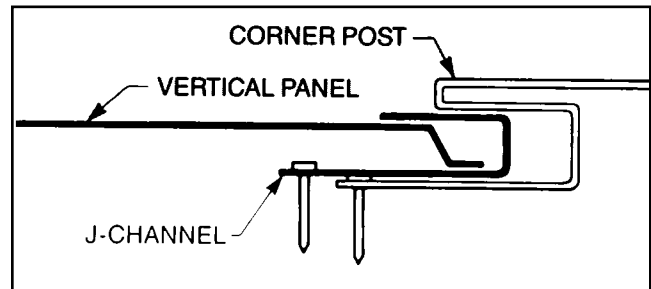
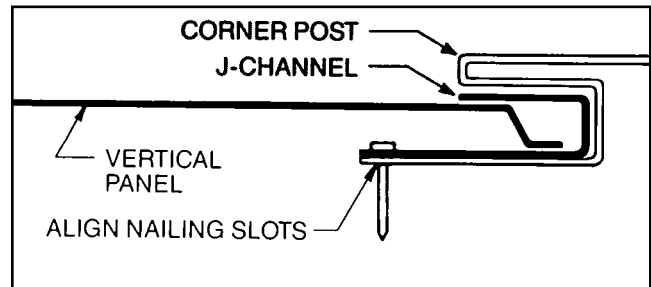
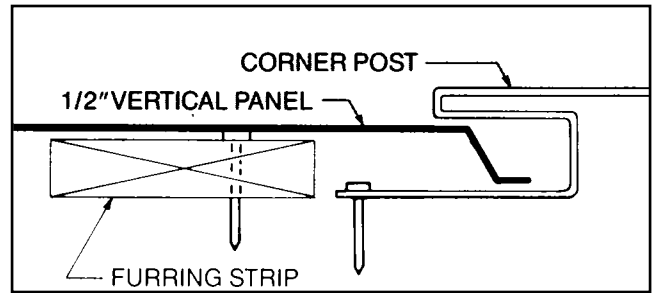

Fig 8.3
Fig 8.4
Fig 8.5
- A. If the final siding panel is cut within the V-groove, it may be inserted directly into the corner post channel. Also note that the nailing slots in the J-Channel may be offset from the corner post (as illustrated; Fig. 8.3), or the J-Channel may be fit flush into the corner post and the nailing slots aligned in both accessories (Fig. 8.4). At no time should nails used to fasten the J-Channel penetrate the surface of the corner post or restrict its movement in any way. An additional furring strip may be needed under the siding panel to improve rigidity and restrict the siding panel from flexing out of the J-Channel (Fig. 8.5).